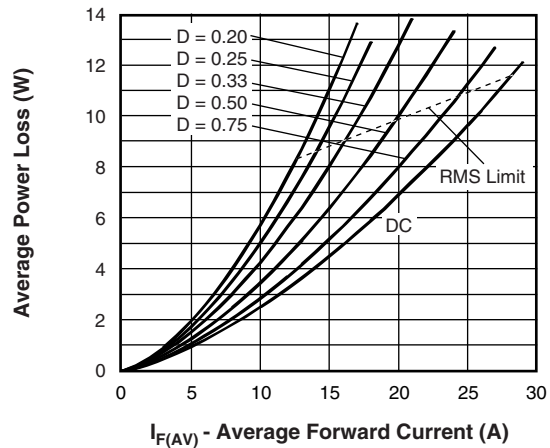

Fig. 6 - Forward Power Loss Characteristics
- (1) Formula used: $T_C = T_J - (P_d + P_{dREV}) \times R_{thJC}$;
- P_d = forward power loss = $I_{F(AV)} \times V_{FM}$ at $(I_{F(AV)}/D)$ (see fig. 6);